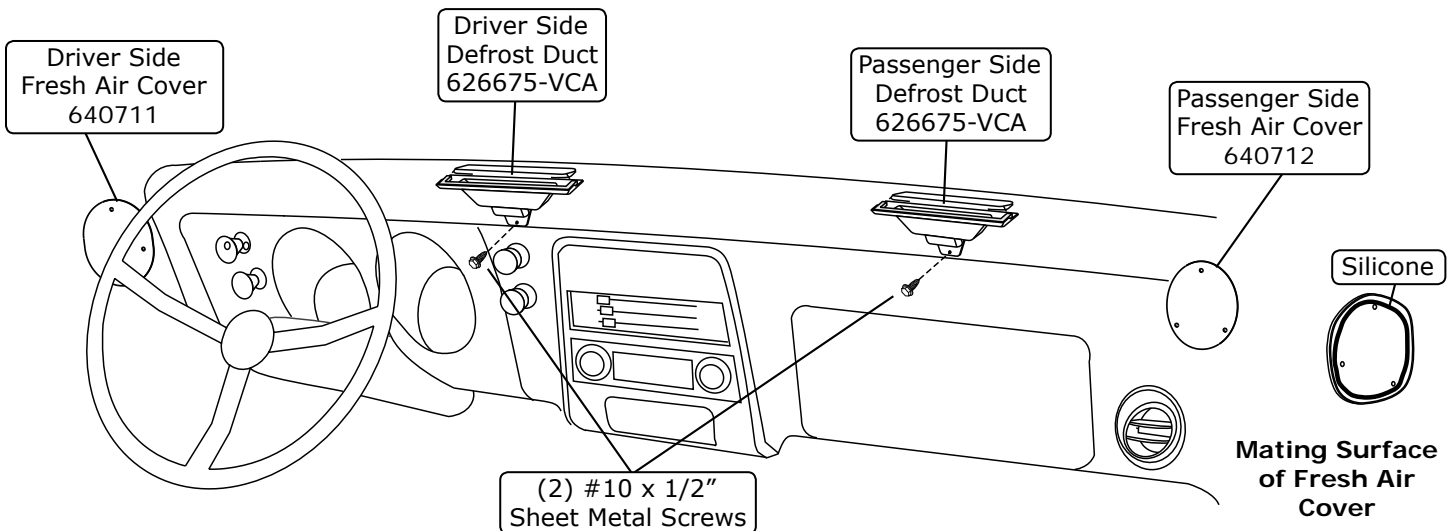

Figure 1
1. Install the defrost ducts under the dash (See Figure 1, below). Align each defrost duct with the defrost opening in the dash, and hold it in place. Using the bracket as a template, drill a 7/64" hole. Secure each defrost duct using a #10 x 1/2" sheet metal screw (See Figure 1, below).
2. If the vehicle is equipped with astro ventilation, apply a 1/4" bead of silicone to the mating surface, and install the driver and passenger side fresh air covers, using OEM hardware to secure (See Figure 1, below).